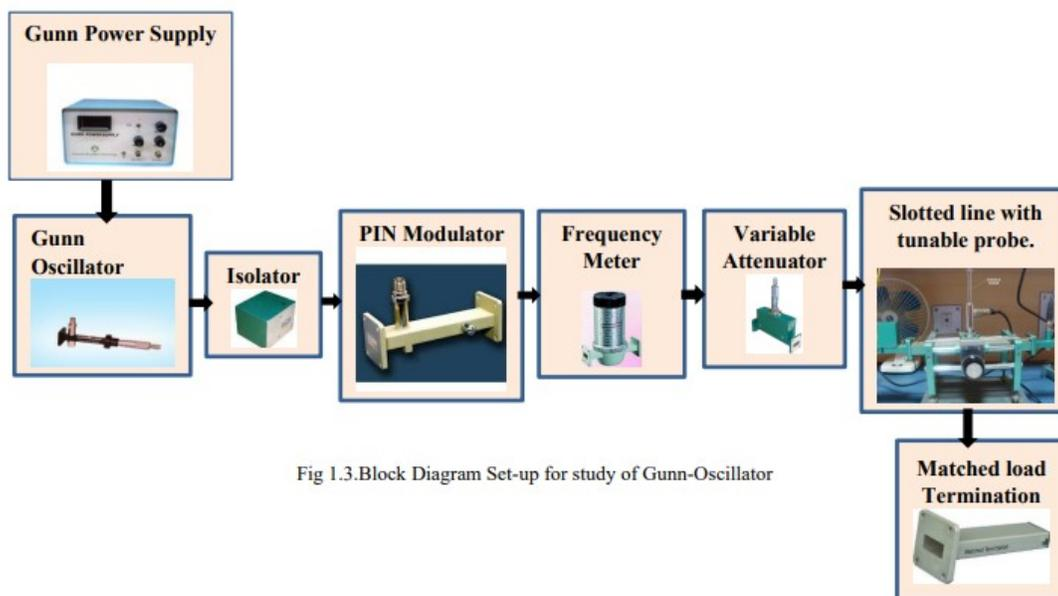

Fig 1.3. Block Diagram Set-up for study of Gunn-Oscillator
1. Set the components and equipment as shown in the Fig. 1.3.